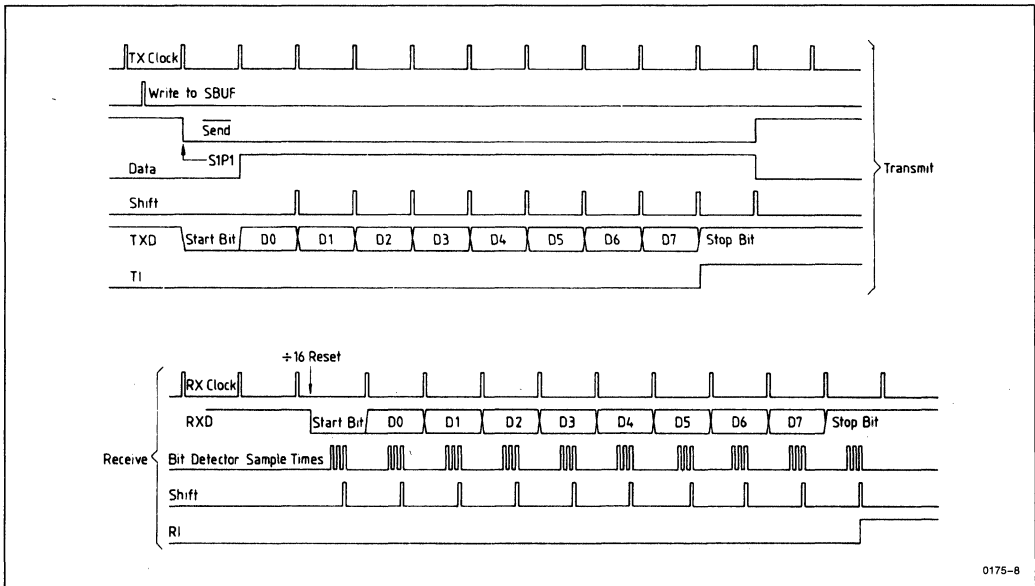

Figure 3-9. Serial Port Mode 1, Timing
Ten bits are transmitted (through TxD), or received (through RxD): a start bit (0), 8 data bits (LSB first), and a stop bit (1). On reception through RxD, the stop bit goes into RB8 (SCON). A transmission is activated by any instruction that uses SBUF as a destination register. The associated timing is shown in Figure 3-9. The baud rate for the serial interface is determined by the timer 1 overflow rate or by the internal baud-rate generator.